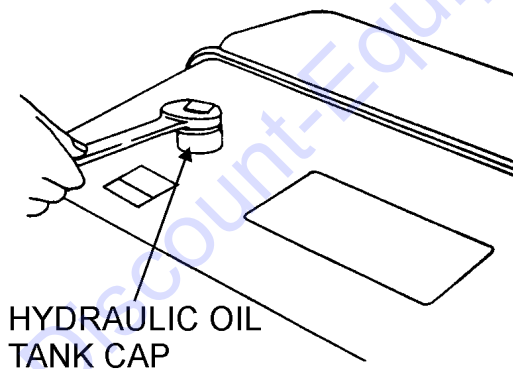

Figure 32. Hydraulic Oil Change
4. Open the tank cap (Figure 32) and fill tank with hydraulic oil. (Capacity: About 4.5 gallons). Use **ShellTellus Oil #46** or equivalent.